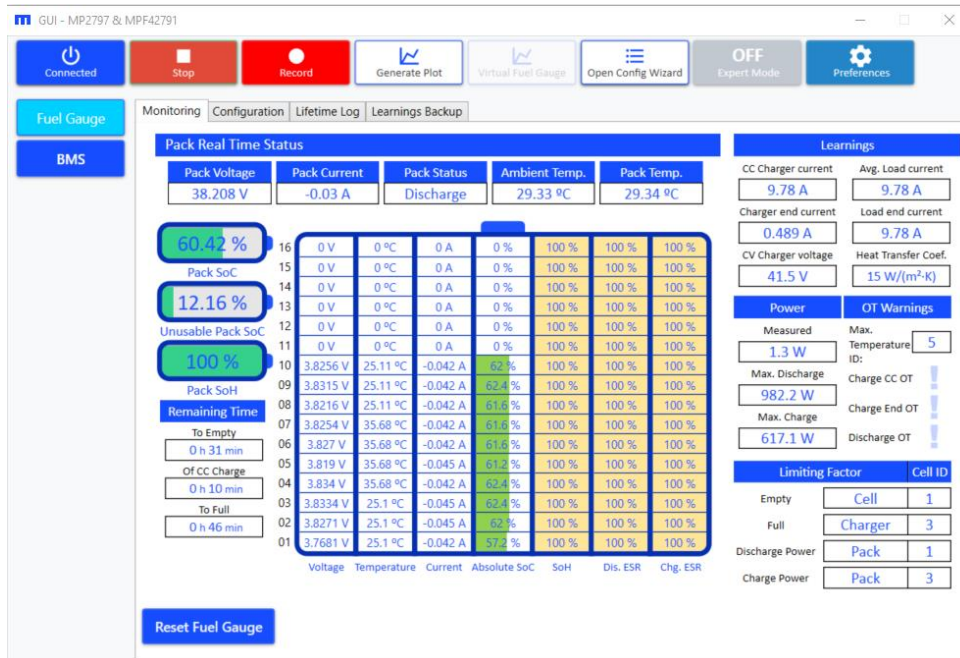

Figure 52: FG Monitoring
1. Click “Start” (denoted as “2” in Figure 31 on page 26). The GUI should start reading all monitoring registers continuously. After clicking “Start”, this button will be displayed as “Stop” (see Figure 52).
2. Figure 52 shows the fuel gauge’s Monitoring window.
This function is only enabled if the connect function has been completed (see Section 3.3 on page 24 for more details). It cannot be used while the GUI monitors the registers (see Figure 52 on page 40).